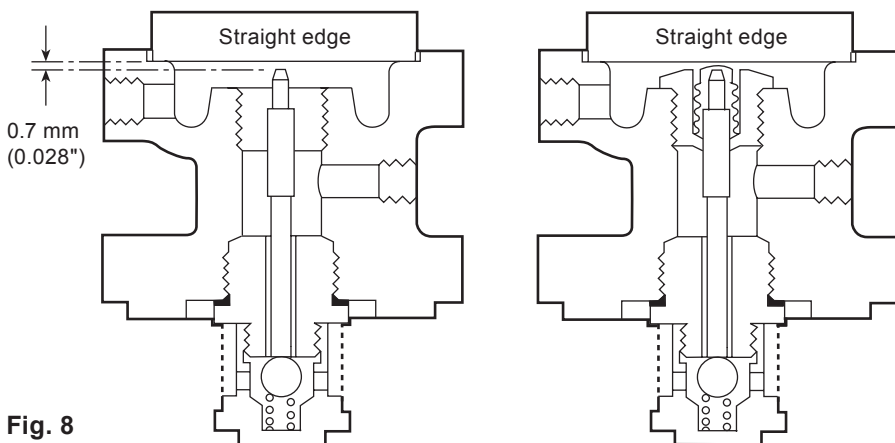

Fig. 8
2. Release the lock-nut (2) and turn the adjustment screw (1) anticlockwise until the spring is slack.
3. Slide out the 'C' washer (3) from underneath the lock-nut and remove the cover (12).
4. Remove the spring (6) and top spring plate (5).
5. Undo the 4 x M10 nuts (8) and remove the spring housing (4), bottom spring plate (7) and the diaphragms (9).
7. Undo the nuts (21) and remove the pilot valve housing (10) making sure that the main valve spring (16) is still positioned correctly on top of the main valve head (17).
8. Unscrew the pilot valve assembly (13) which includes the integral strainer screen (14) by using a 27 mm A/F socket and also remove the plunger (11).
9. Unscrew the bellows seal assembly (31) using a 24 mm A/F socket. If necessary this bellows seal assembly can be replaced.
10. With the bellows seal still removed screw in the new pilot valve assembly (13) and tighten down to a torque of 115 N m.
11. Insert the plunger (11) in from the top and check that there is a gap of 0.7 mm between the top of the plunger and a straight edge placed across the diaphragm location recess (See Figure 8).